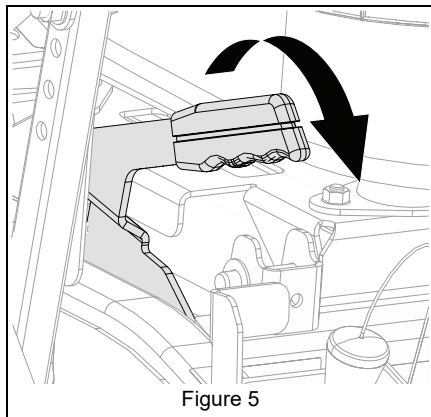

Figure 5
8. Release parking brake. See Figure 5.